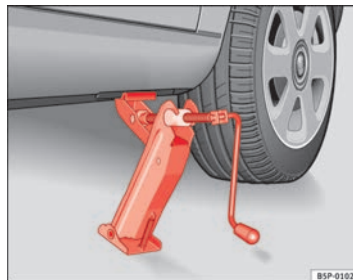

Fig. 180 Fitting the jack
- Align the jack so that the arm of the jack fits around the rib under the door sill and the movable base plate of the jack is flat on the ground → Fig. 180.